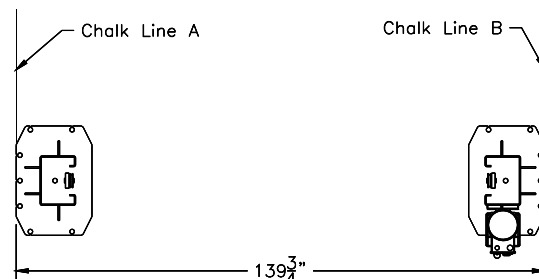

Fig 1 – Column Layout
See Figure 1	Q12
- Using the Overall Width (C) Dimension from **Fig 1**, chalk two parallel lines on the floor within 1/8" tolerance. Erect both column assemblies. Align the base plate edges to the chalk lines.
- 6) Recheck "Inside of Columns" dimension, **Fig 1**. Drill the anchor holes using the base plate as a template. Drill through the floor if possible or to a depth of 5 inches minimum.